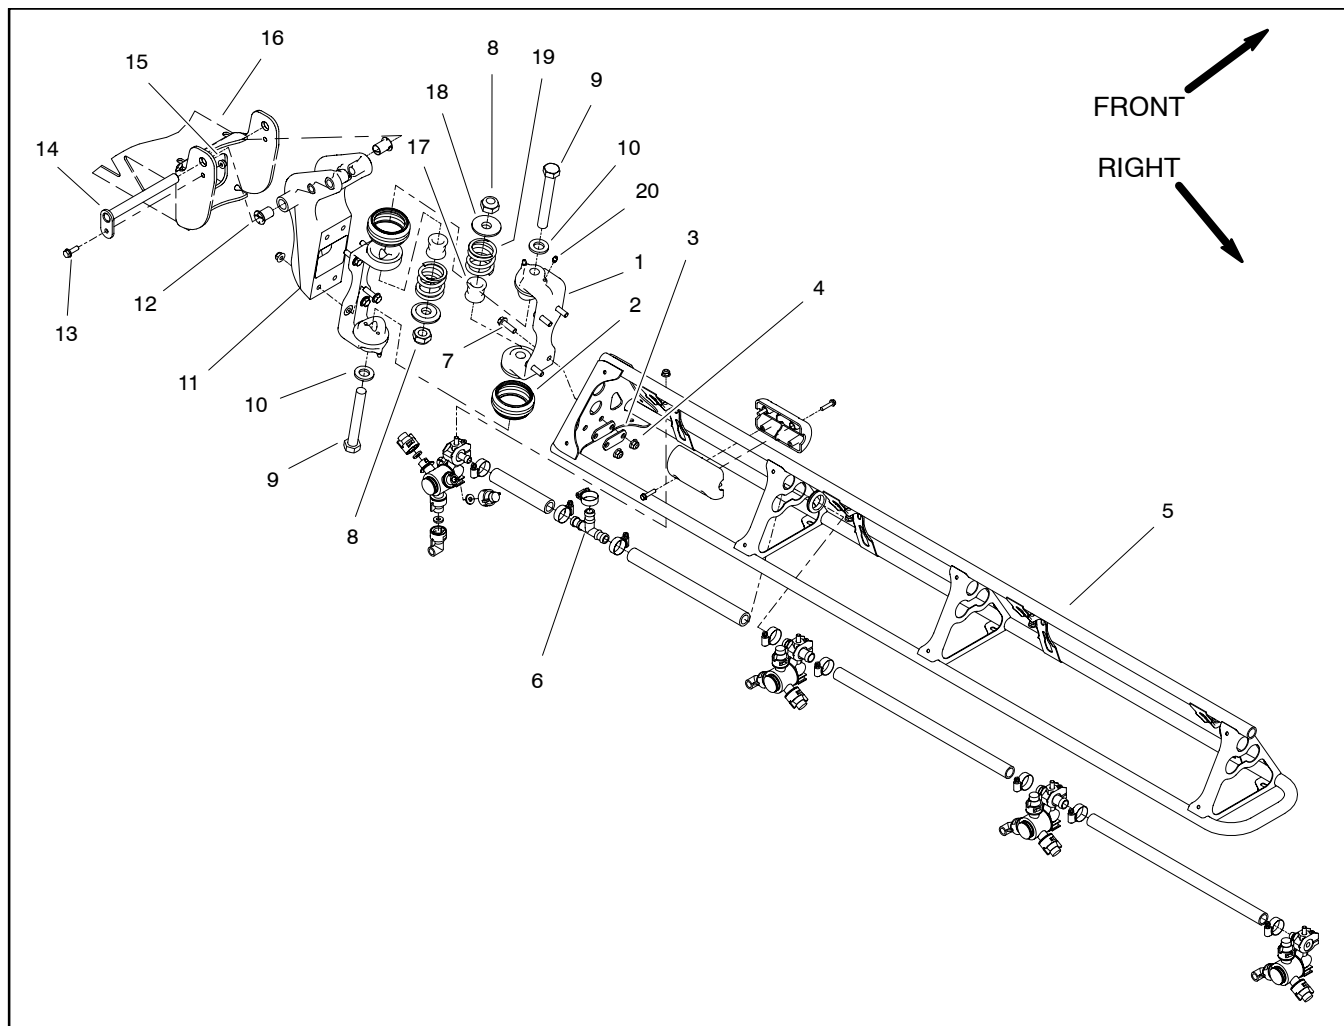

Figure 58
Disassembly (Fig. 58)
2. Loosen hose clamp and remove supply hose from tee fitting (item 6) on spray boom.
4. Loosen two (2) cap screws (item 9) and lock nuts (item 8) to allow breakaway springs (item 18) to fully extend.
5. Complete disassembly as required using Figure 58 as a guide. If pivot bracket (item 11) is to be removed from machine, disconnect boom actuator (not shown) from pivot bracket (see Boom Actuator Removal (Machines with Serial Numbers Above 260000000) in this section).
Assembly (Fig. 58)